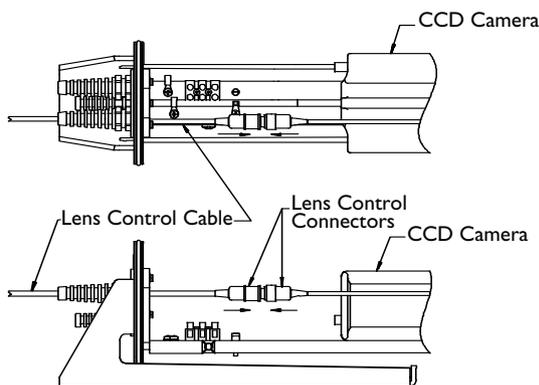

FIGURE 13 Lens Control Cable Wiring
**If installing a zoom lens,** insert the lens control cable with installed flexible fitting in through the fitting on the right rear of the base assembly. Attach the lens wiring to the lens mating connector and connect it to the lens. If mating connector is not available, connect directly to the lens cable. Pull any excess cable through the liquid-tight fitting and tighten the flex fitting to 8.5N-m to 9.0N-m (75in. lb to 80in. lb). This torque rating is approximately 1 to 1 1/2 turns past finger-tight, depending on the size of the wire. Failure to do so will result in water damage to all electronic parts. Use a tie wrap (included) to provide strain relief on the lens control cable at the exit point (inside the unit). See FIGURE 13.